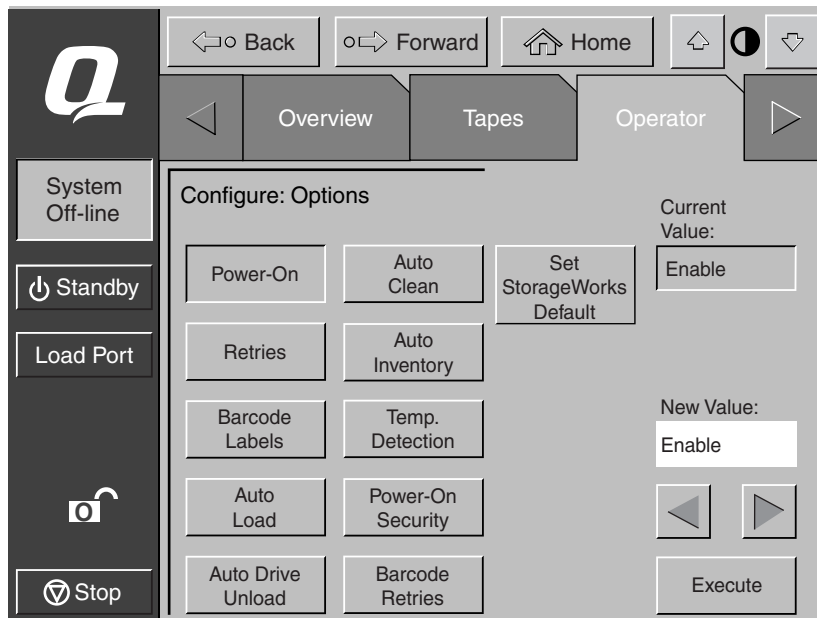

Figure 4-5. Configure: Options screen
1. On the Operator screen, press the **Configure Options** button. The control panel displays the Configure: Options screen (see Figure 4-5).